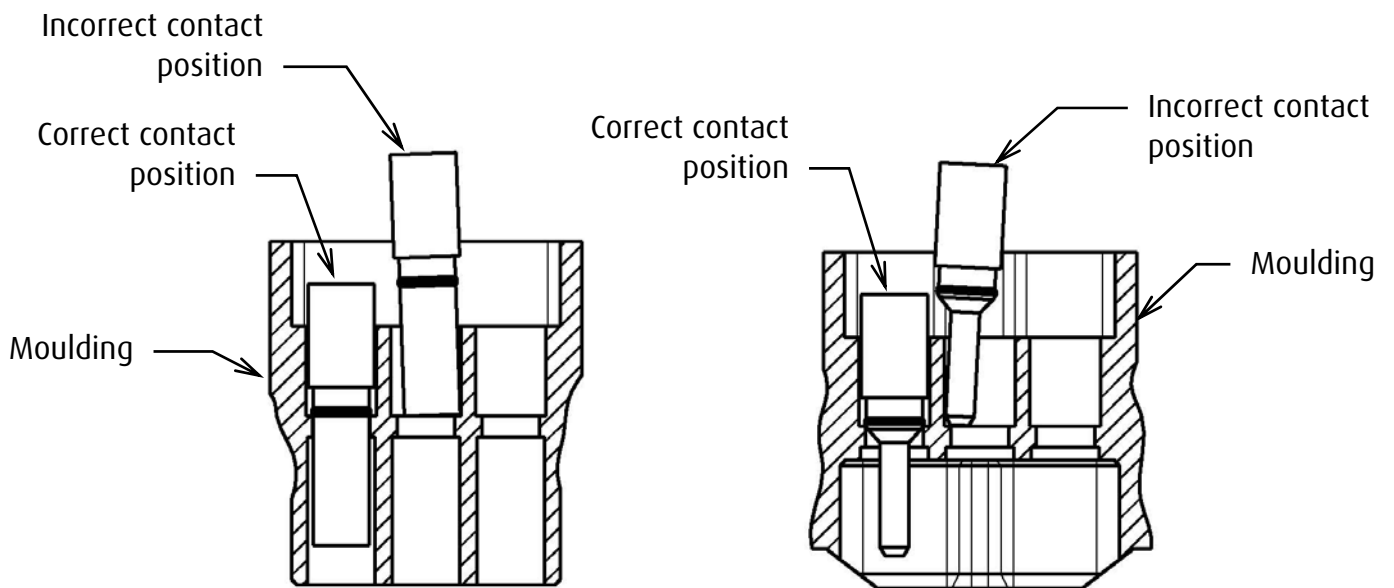

Figure 2
4. Place the crimped contact partially into the moulding. The correct position is reached when approximately 1.2-1.6mm of contact protrudes (see Figures 2 and 3).